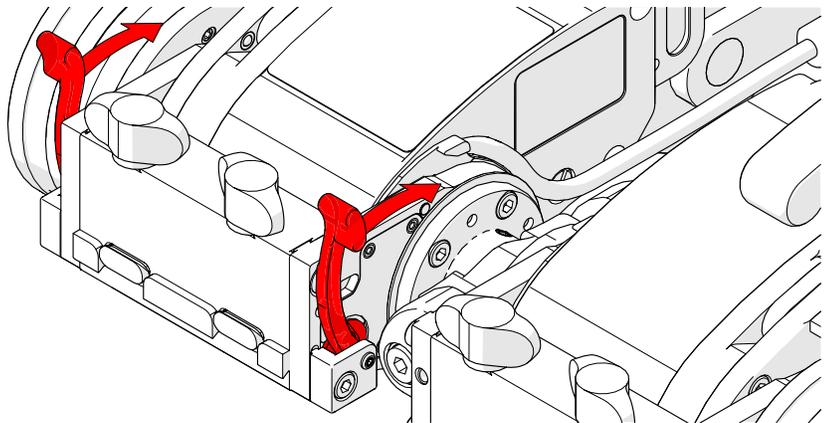

Fig. 24 - Lock swivel mount adjustment levers
4. Lock the swivel mount adjustment levers (Fig. 24).